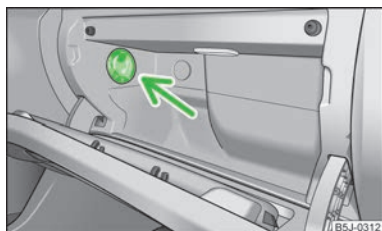

Fig. 62
- Use the rotary switch » Fig. 62 to open/close the air supply.